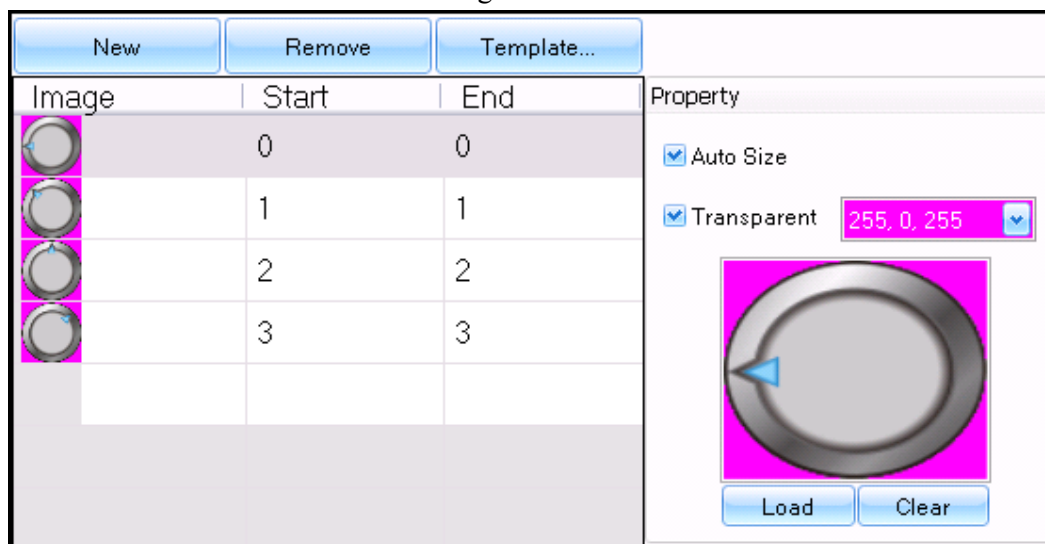

Figure 6.2.12
- Figure 6.2.12 is an interface of state picture on Switch and function keys.